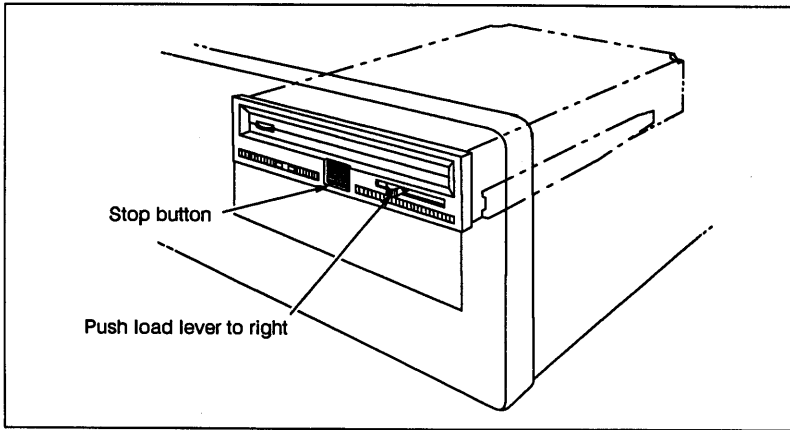

Figure 2-4. Removing The Cartridge
- a. To remove a cartridge, press the the stop button. See FIGURE 2-4. The cartridge load lever pops out, the AMBER/RED LED begins flashing, and the drive begins spinning down the disk.